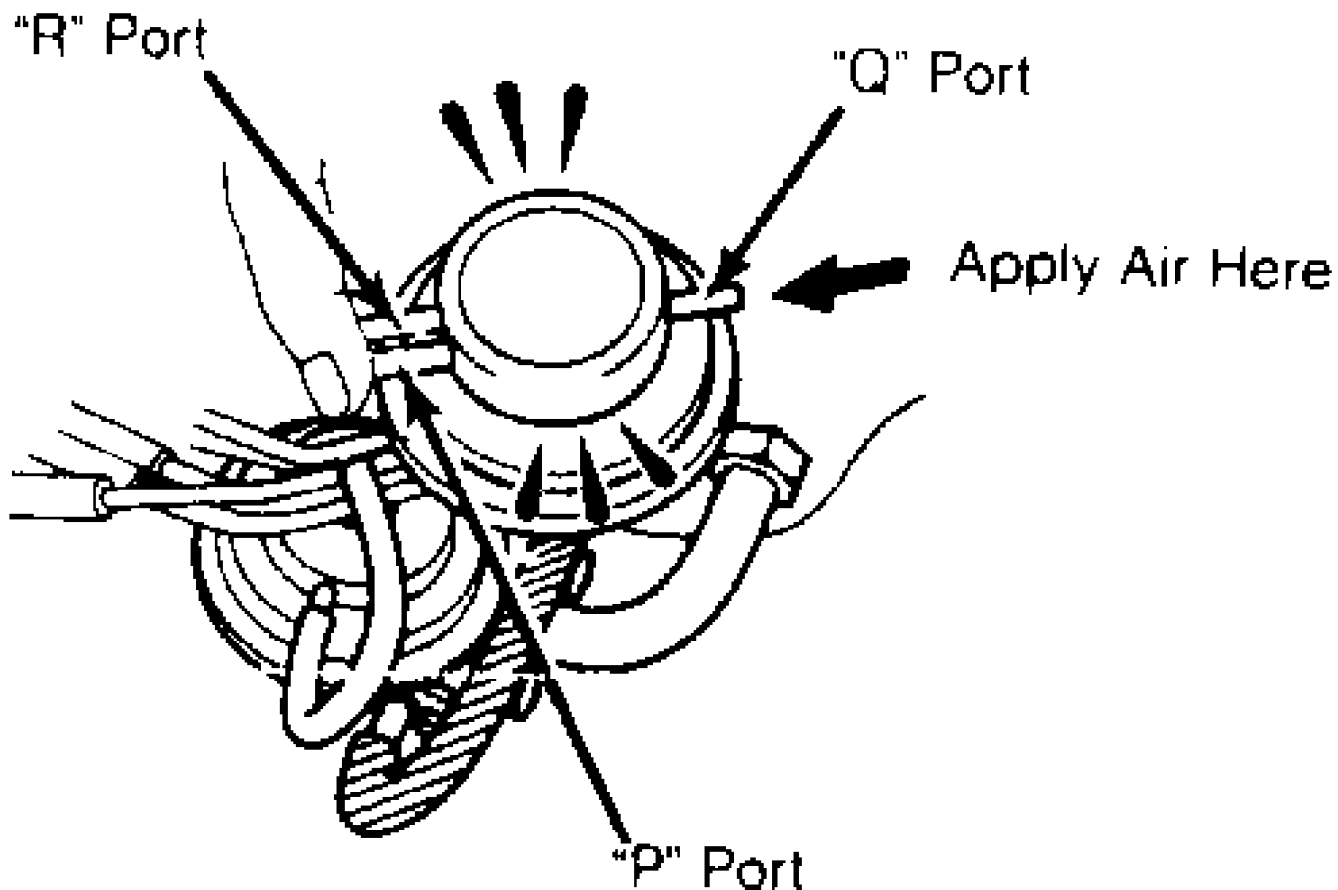

Fig. 17: Testing 3-Port Vacuum Modulator
- 2) Apply air pressure through remaining port. Air should pass freely through air filter side. On 3 port models, disconnect all hoses. Block "P" and "R" ports. Apply air pressure to "Q" port. See Fig. 17. Air should pass through the air filter side freely.